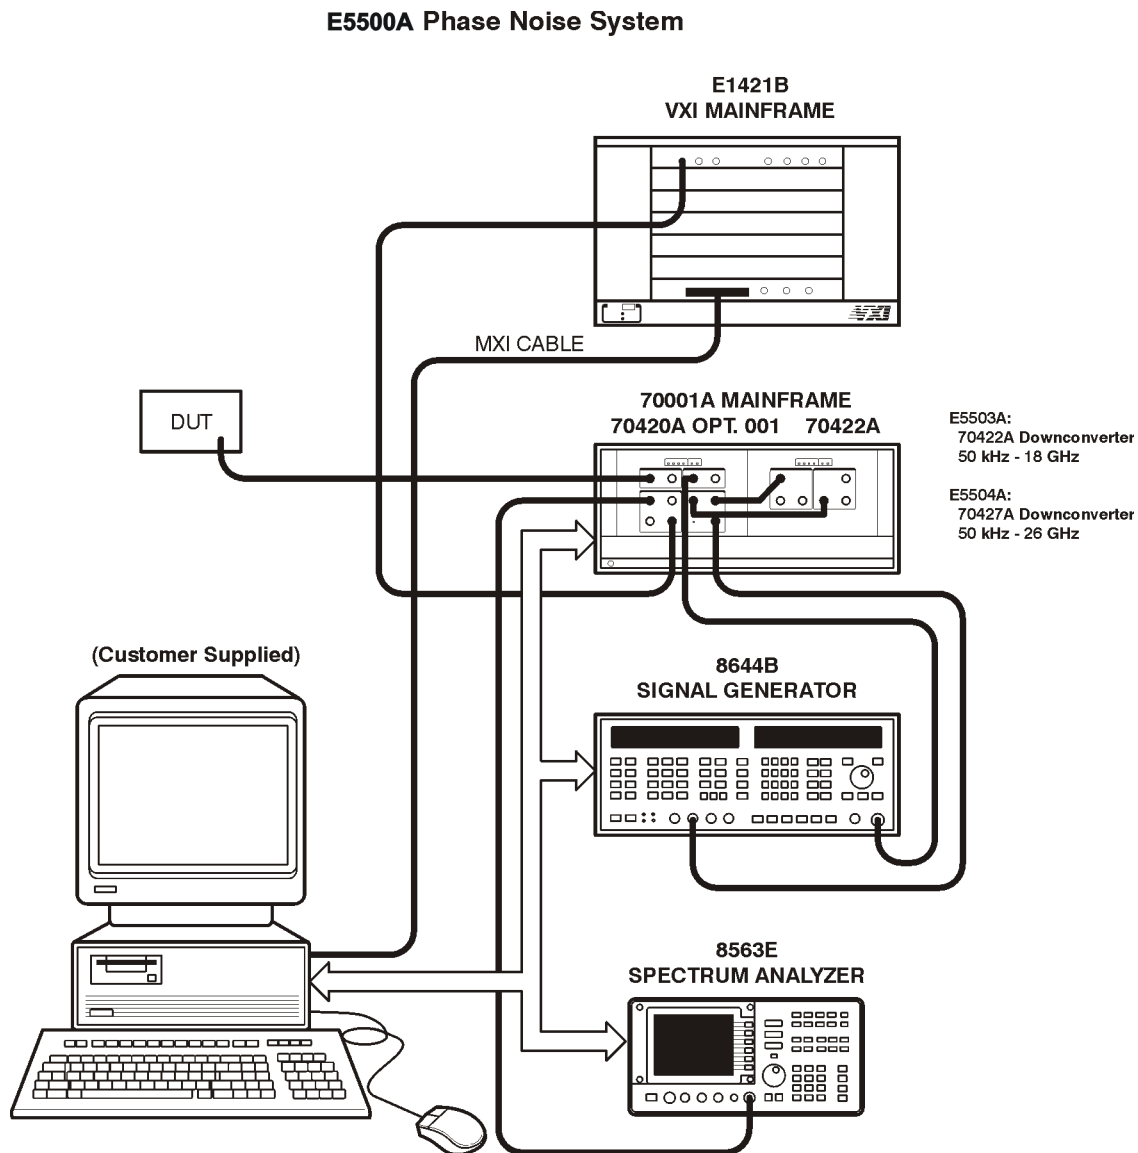

Figure 1-5 E5500A Connect Diagram Example
- 3 Refer to Figure 1-5 for more information about system interconnections. For specific system interconnections, refer to Chapter 2, “Connect Diagrams”.